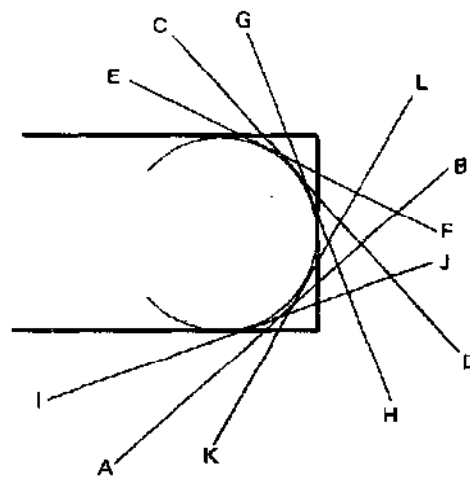

Fig. 8-48 Angles of plane in planing.
3. Plane down to the lines A, B, and C, D, figure 8-47, by tilting the plane to 45-degree angles shown by the lines AB and CD in figure 8-48.
4. Plane off corners A, B, C, and D, figure 8-47, by tilting the plane to the angles shown in lines EF, GH, IJ, and KL, figure 8-48.